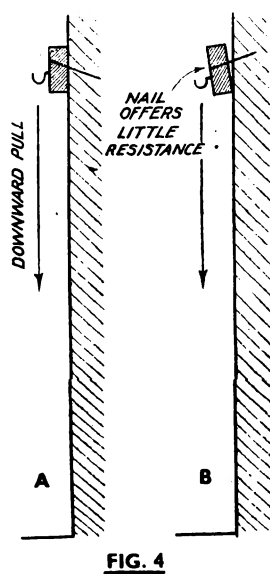

FIG. 4
**Dovetail Nailing, Etc.**—Suppose you have to drive a nail into a wall fairly high up, and it has to support a fair weight. The direction in which you drive it can be made to increase its strength. In Fig. 4, at A, for instance, the nail by being driven in downwards resists the downward pull. If it were put in the other way it would be liable to pull out as at B.
**Window Frame.**—The frame *h*, Fig. 3, should project slightly beyond the weather boarding of the shed as shown in Fig. 4, and the sill is allowed to project on both sides as indicated in Fig. 3.
a penny should be arranged between the sash and the frame. The weather grooves, shown in Fig. 4, should not be omitted, as these help to prevent the entry of moisture to the interior of the shed. At the inside of the window opening stop beads *j*, Fig. 4, are shown. These can be mitred at the angles. (250)